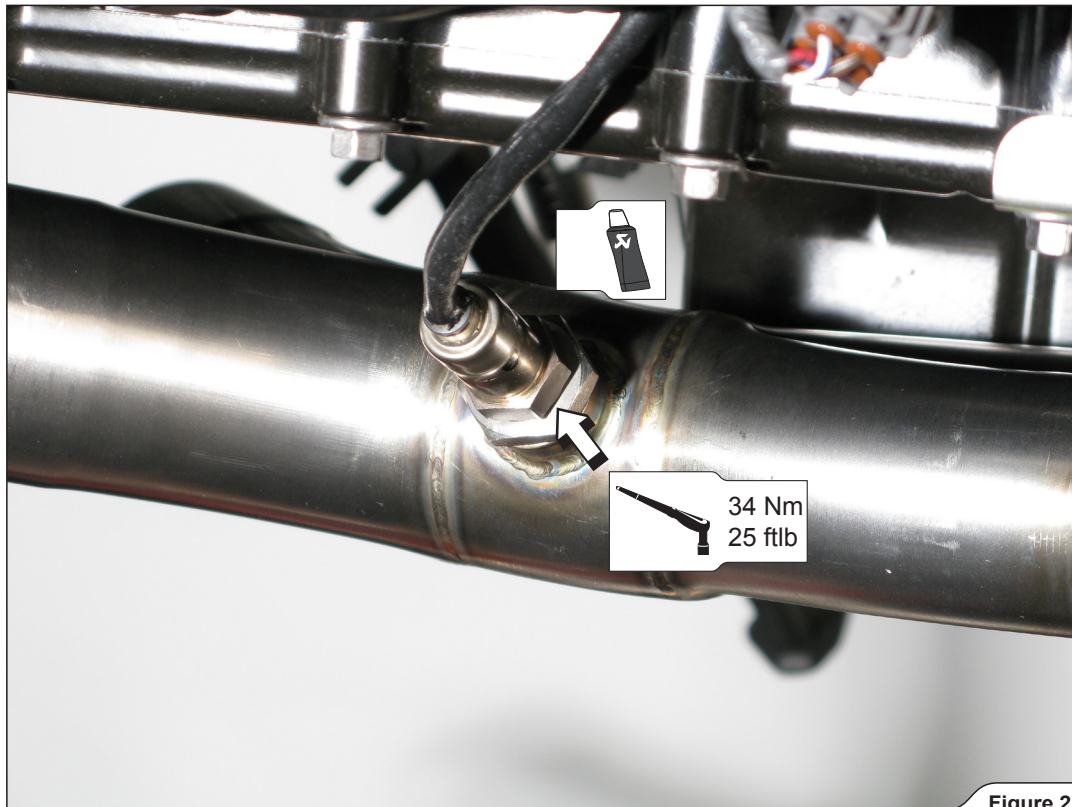

Figure 25
7. **For Optional Headers only:** attach the lambda sensor in to the collector (**Figure 25**).